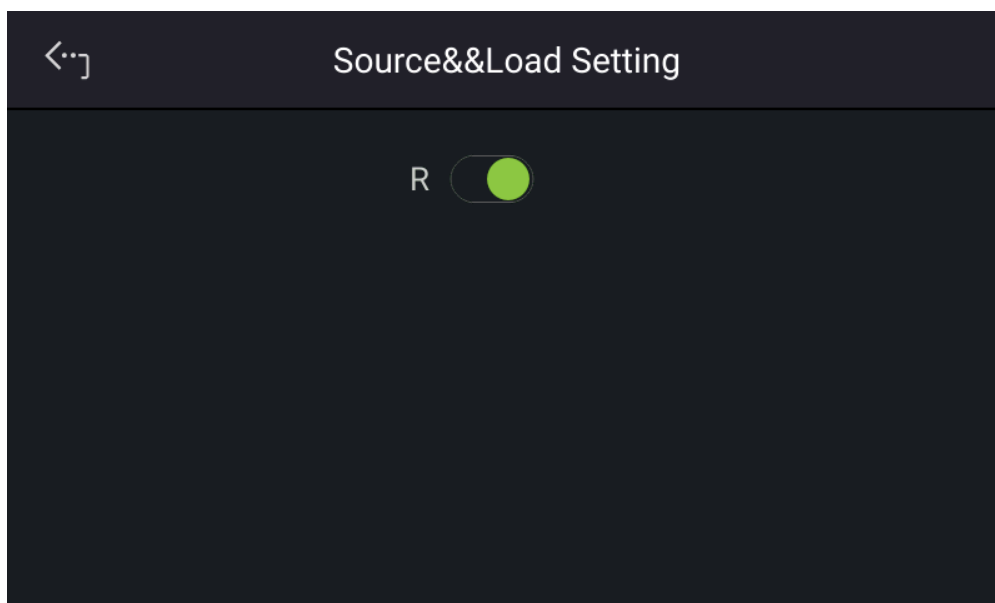
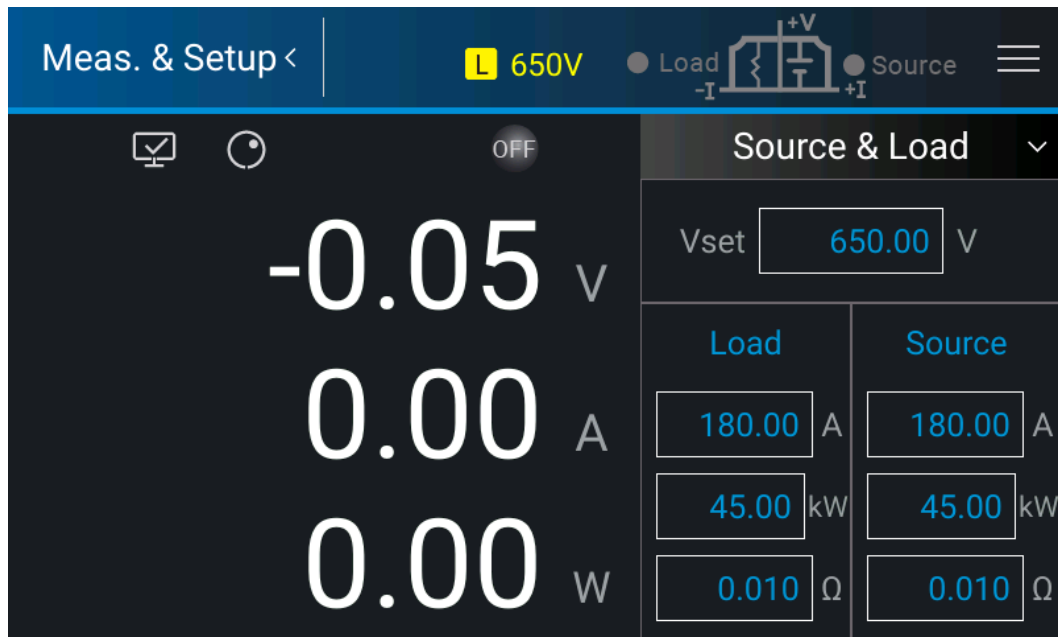

Figure 3-46
Figure 3-47
Tap Source & Load Setting to enable or disable the R function as Figure 3-46 shows. When the R function is enabled, the Source & Load main screen will add a new setting item of R as shown in Figure 3-47. The R function in the Source direction is to simulate the internal resistance R_i of the power supply. Once R is started, the output voltage will change following the external current, the actual output voltage (V) is $V = V_{set} - I_o * R$. Meanwhile, the R function in the Load direction simulates the constant resistance for current control, and the actual load current is $I = V_o / R$.